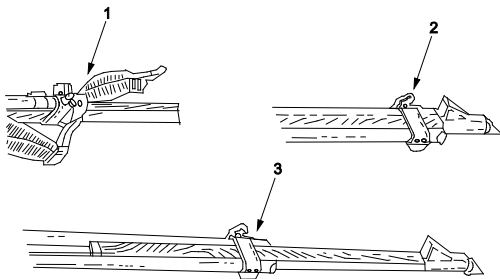

Figure 1. M24 Tripod Leg Extension.
1. Unstrap tripod legs (Figure 1, Item 1), loosen leg clamp thumbscrews (Figure 1, Item 2) and fully extend each leg to desired length. Tighten leg clamp thumbscrews (Figure 1, Item 3).